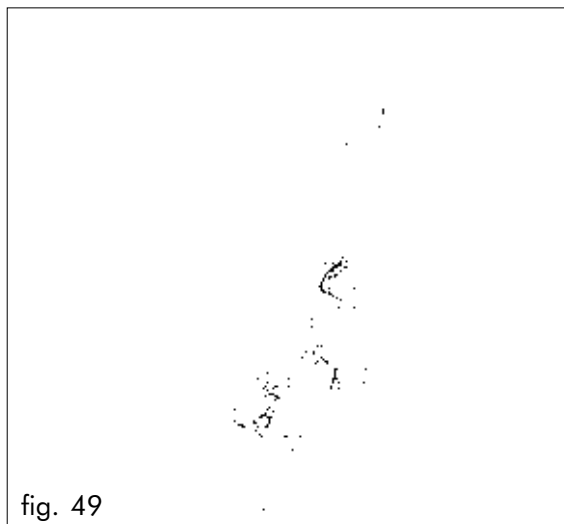

fig. 49
- With a cloth soaked with the solution clean the whipper assembly base (fig.49).